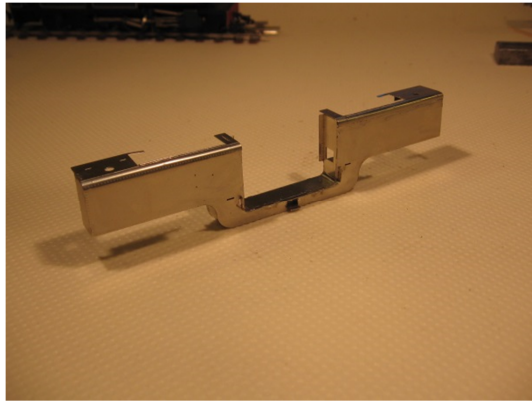

Fig. 58
87. check using the lower tank valance(126) as template. Fig 58 & 59.